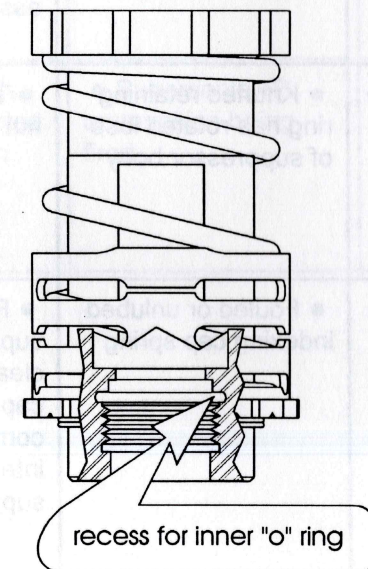

Figure 7 - Inner "O" Ring Recess
2.	Using the tweezers, gently guide the "o" ring fully into its recess. (See Figure 7 for detail of inner "o" ring recess.)
• (3)	Retaining Ring	1.	Place piston (6) down on a hard surface with the threaded end of the bore pointing up.
• (4)	Cap Spring
• (5)	Inner Coil Spring	2.	Place inner coil spring (5) over piston (6).